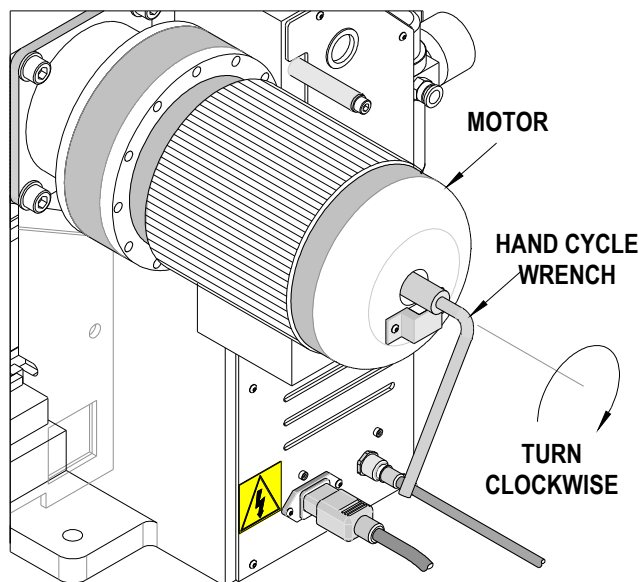

Figure 3-4
1. Insert the hand cycle wrench (order number 63801-7264) through the access hole in the center of the motor rear cover. Rotate the wrench to engage the motor shaft. See Figure 3-4.